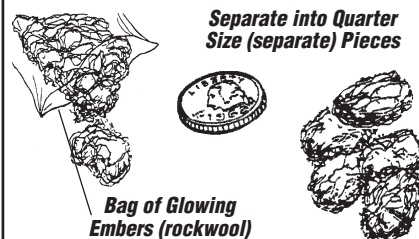

Figure 12
4. **Placement of Glowing Embers** - Separate the Embers (rockwool) into pieces about the size of a quarter (see **Figure 12**). Keep the pieces fluffed up, not matted. Distribute these pieces over the surface of the burner, as shown in **Figure 13 or 14**. Do not use more than is necessary. Ensure that the main burner ports remain uncovered by the ember material.